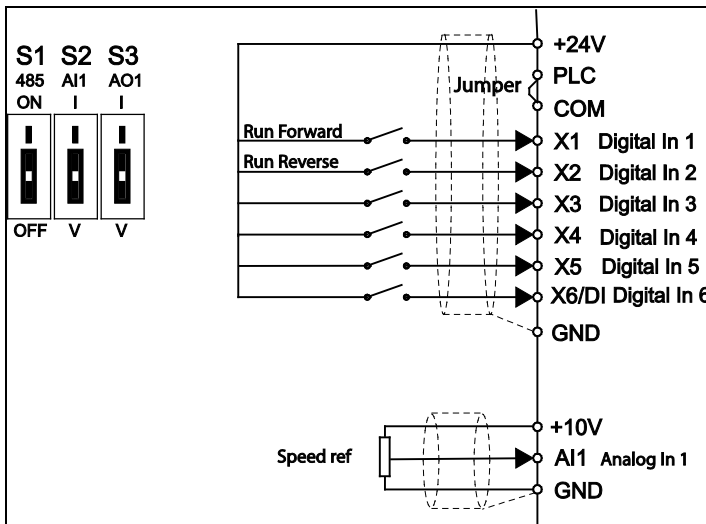

Fig 4-18 Connect pot. to +10V, GND and AI1 terminal
2. Connect analogue reference signal + to AI1 and - to GND. If manual potentiometer (10kOhm) is used connect the mid point to AI1 and ends to +10V and GND. see Fig 4.18.